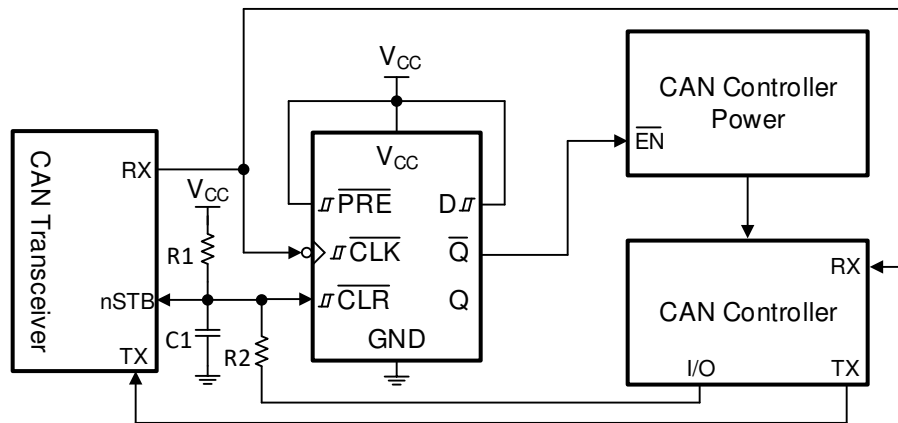

图 12. Power Enable Using CAN Wake-up Request
With the SN74HCS72, a power on reset circuit only requires a resistor (R) and capacitor (C) to create a delay. The R and C values create a delay that is approximately $2.2 \times RC$. In this application, it is desired to have the output (\bar{Q}) in the HIGH state at startup, so R1 and C1 are connected directly to the \overline{CLR} pin, as shown in 图 12. A second resistor is needed to limit the current into the CAN controller when it sets the circuit back into standby mode. It is required for the R1 resistor to be at least ten times larger than R2 to avoid a divider circuit ($R2 \leq 10R1$).